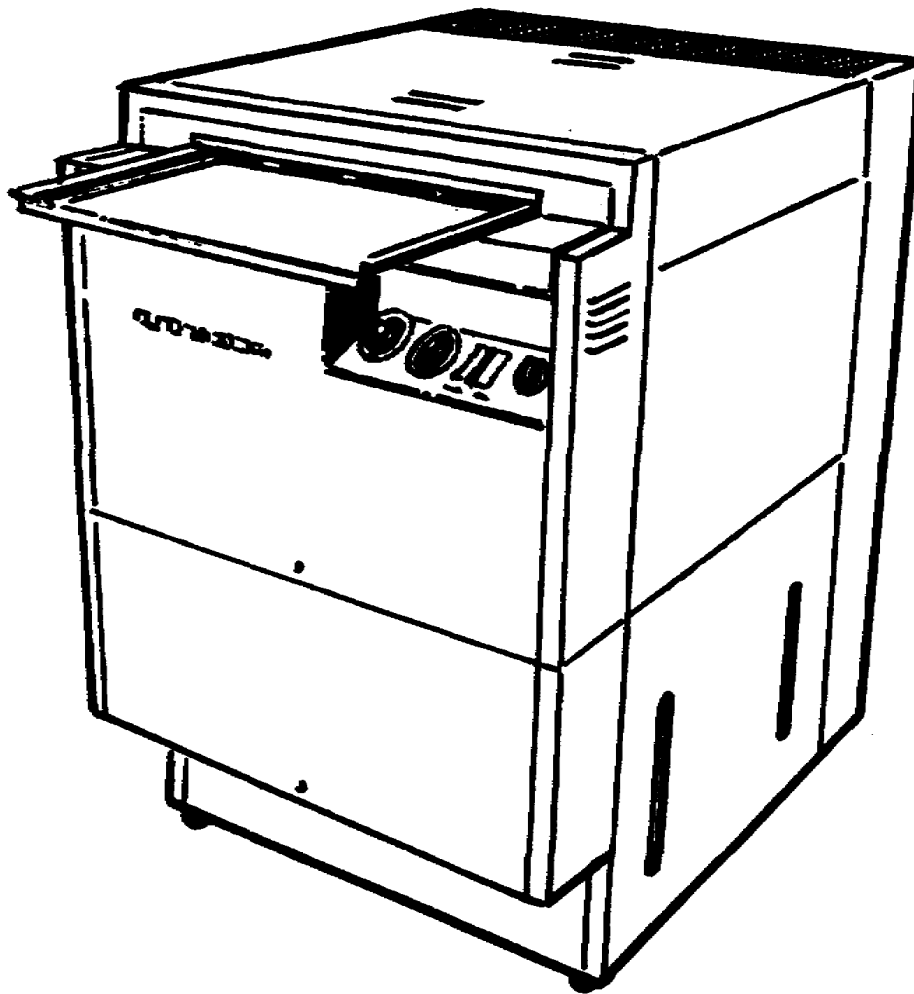

Figure 1-3. Floor model processor
6. Figure 1-3 represents a floor model processor, the Ilford Ilfospeed 2240 black and white print processor. It has a production capability of up to 580 8 by 10 prints per hour. Dry-to-dry time is only 67 seconds. It can be set up to run all standard roll sizes and can accept paper up to 17 inches wide for even higher throughput. The 2240 processor is a one-speed processor but feeds through a remarkable 62.2 inches per minute.